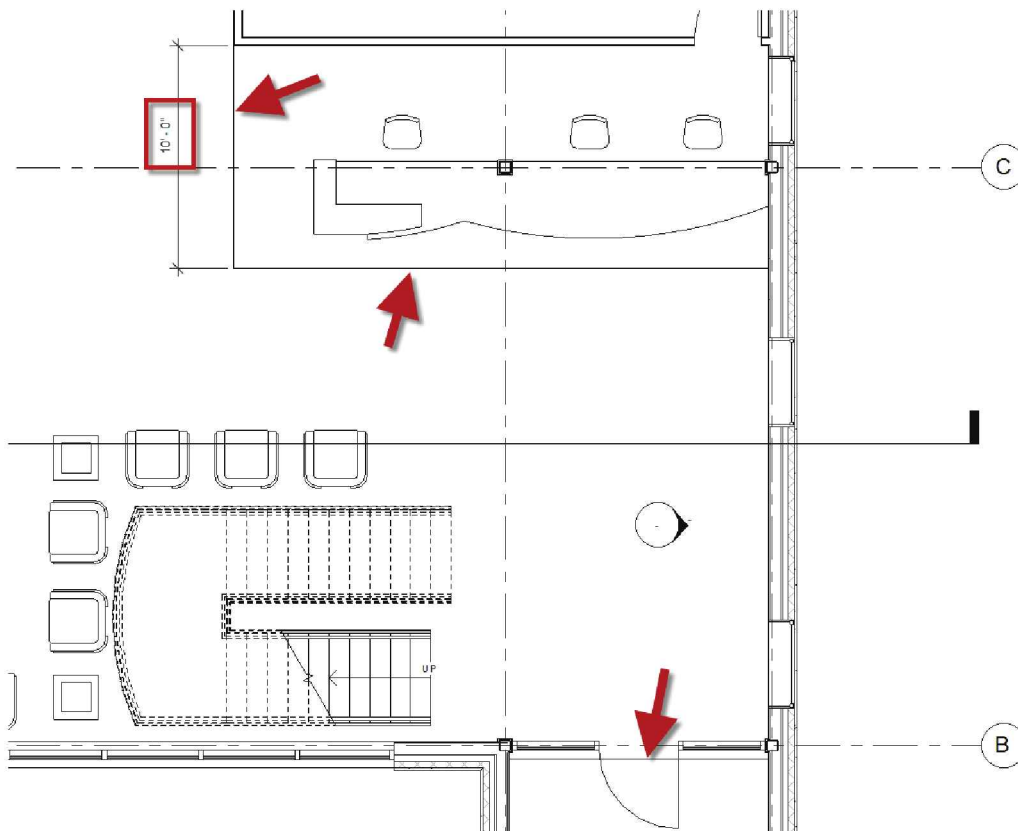

FIGURE 12-1.6 Additional Room Separation Lines added
13. Add the *Room Separation Lines* shown in Figure 12-1.6.